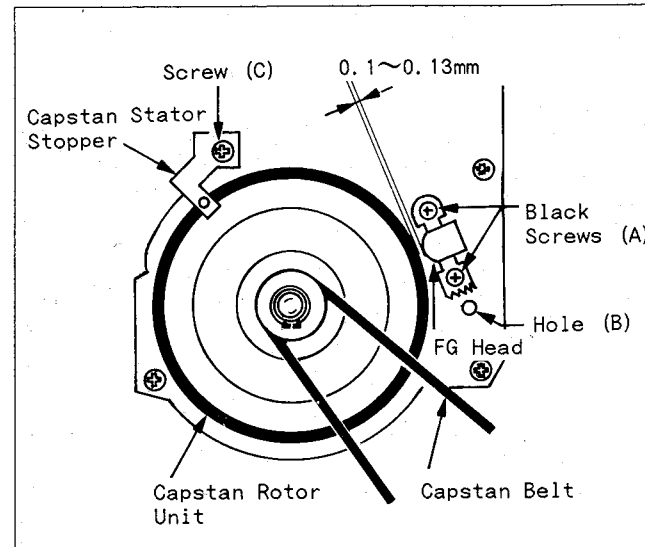

Fig. M14
2. Slightly loosen 2 Black Screws (A) and set the Fine Adjustment Screwdriver into Hole (B) as shown in Fig. M14. Turn screwdriver clockwise until the FG Head touches the rotor. Then turn it slightly counterclockwise to the clearance as specified.
3. Tighten 2 Black Screws (A) in Fig. M14.
1. Remove the Capstan Belt (Fig. M14).
2. Remove Screw (C) and the Capstan Stator Stopper in Fig. M14.
8. Re-install the Capstan Stator Stopper with Screw (C), in Fig. M14.